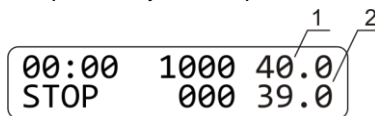

Figure 4. Display after calibration:
6.5. The display will show calibrated temperature as shown on fig. 4/1 and the unit will continue thermal stabilization according to the previously set temperature.